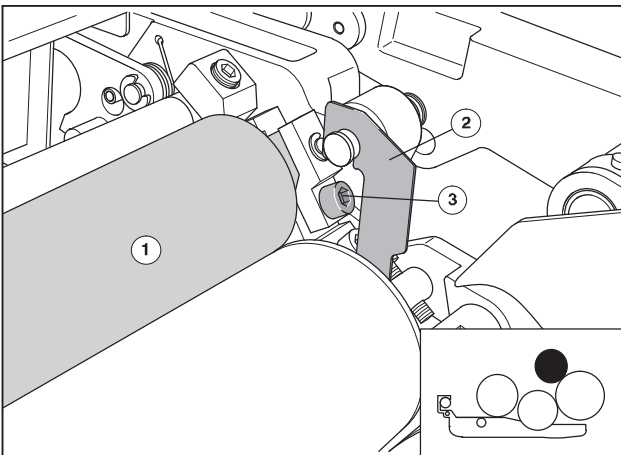

Fig. 26 Removing the dampening distributor
2. Remove the dampening system gaskets (Fig. 26/2).
3. Unscrew the Allen screw (Fig. 26/3) on D.S. and O.S. with the operator tool; the screw remains in the cap.
5. Remove the dampening distributor (Fig. 26/1) with the bearing bushes on the shaft from the bearing. When removing, be careful with the coupling (cross pin in the dampening distributor shaft).